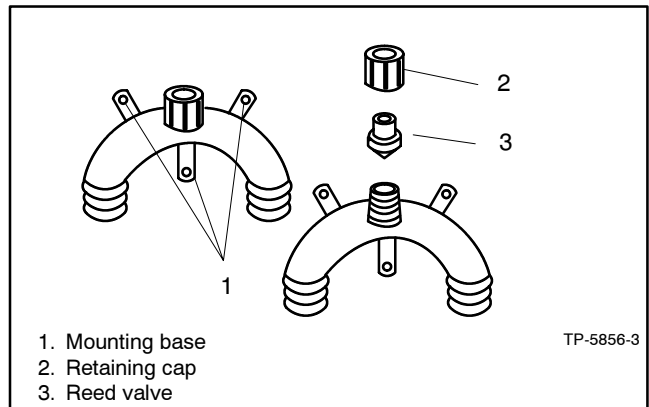

Figure 6-5 Siphon Break
2. Remove the retaining cap and remove the reed valve for inspection. See Figure 6-5.
6. Install the reed valve into the mounting base with the valve downward. See Figure 6-5, item 3.